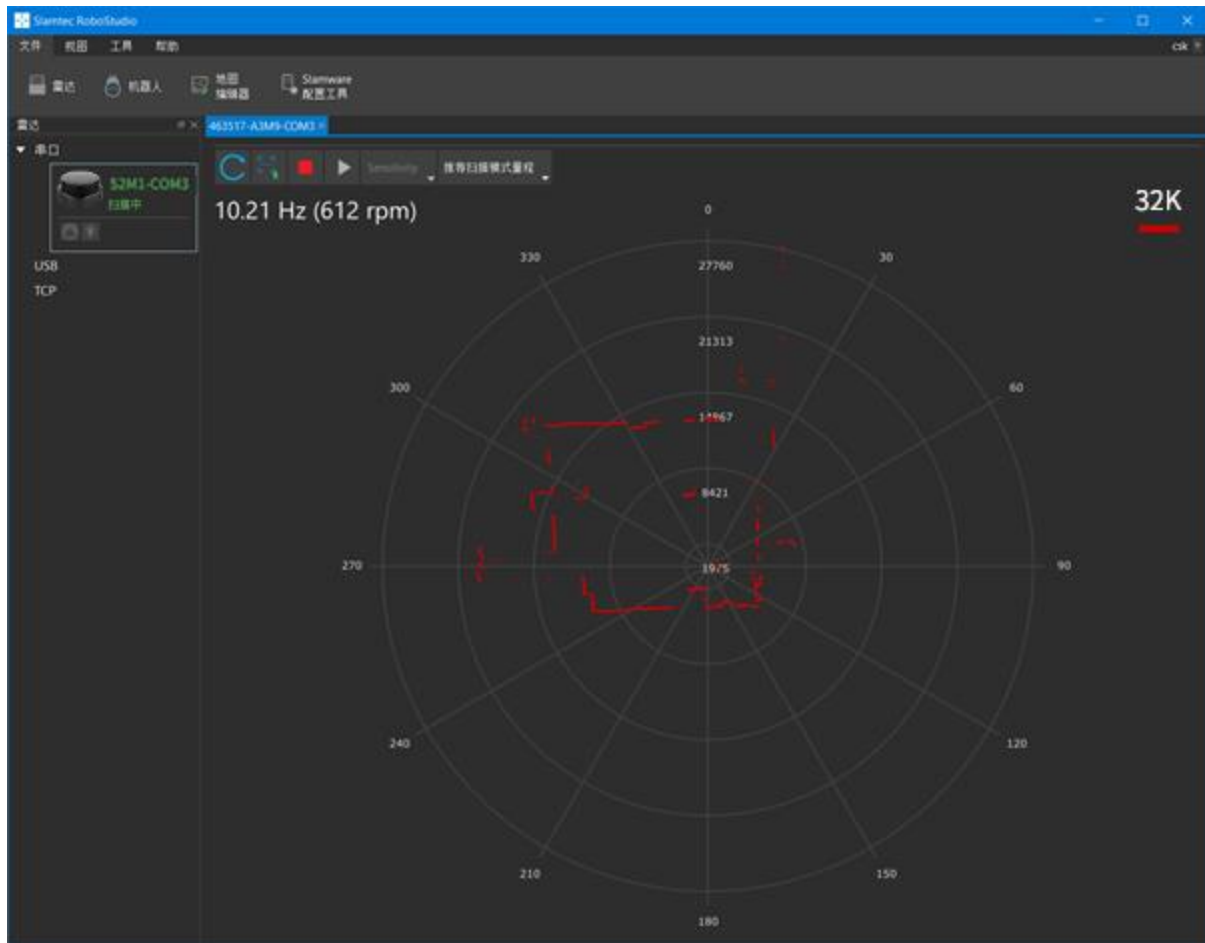

Figure 2-7 The Lidar Plugin in RoboStudio
3. Click the RPLIDAR S2 icon to extend the tool buttons below the icon: the left one is to adjust the motor speed while the right one is to open the tool bar in the major work area as shown in Figure 2-7.